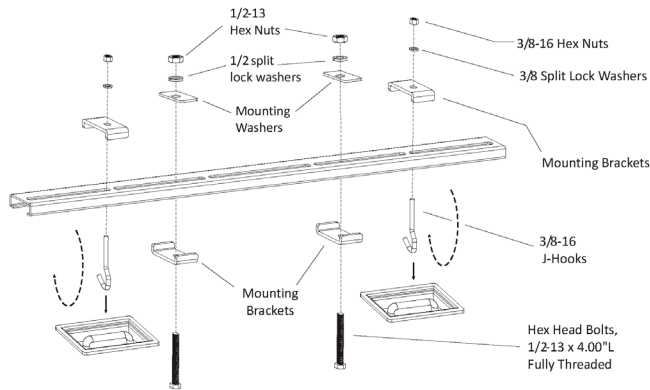

Figure 4-10
4. A. If seat attachment points are available, follow the mounting diagram. *See Figure 4-10.*